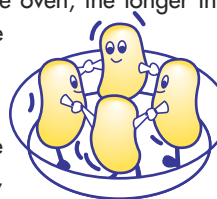

Fig. 5
- 5) If you are preparing a large number of portions of the same food item (e.g., boiled potatoes), **place** them in a large dish to allow uniform cooking. (see fig. 5)